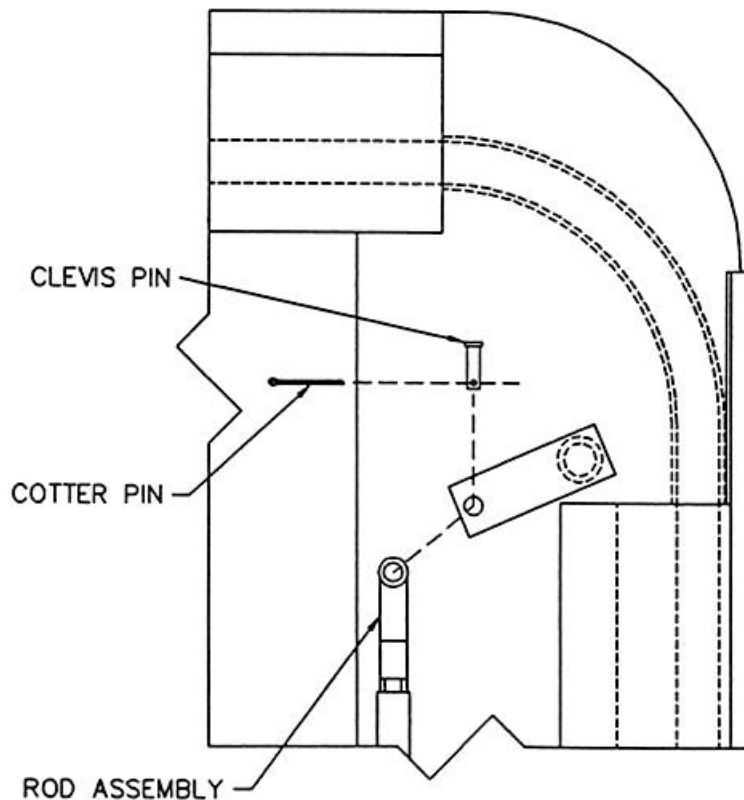

FIGURE 5
3. Remove rivets from upper corner of front outer cover and pull cover out enough to gain access to upper lever (see Figure 2, page 6-5). **DO NOT CREASE COVER.** Remove cotter pin from joint (see Figure 5). Hold on to rod assembly and remove clevis pin from joint. Pull rod assembly and lower lever up and out.